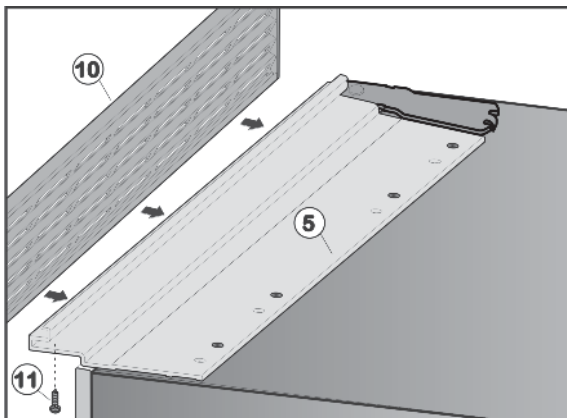

Fig. 31
- ▶ Position ventilation grille Fig. 31 (10) over the installation contour Fig. 31 (5) and align it such that the holes in ventilation grille and installation contour are above each other.
- ▶ Screw ventilation grille Fig. 31 (10) to installation contour Fig. 31 (5) from below using three screws Fig. 31 (11).